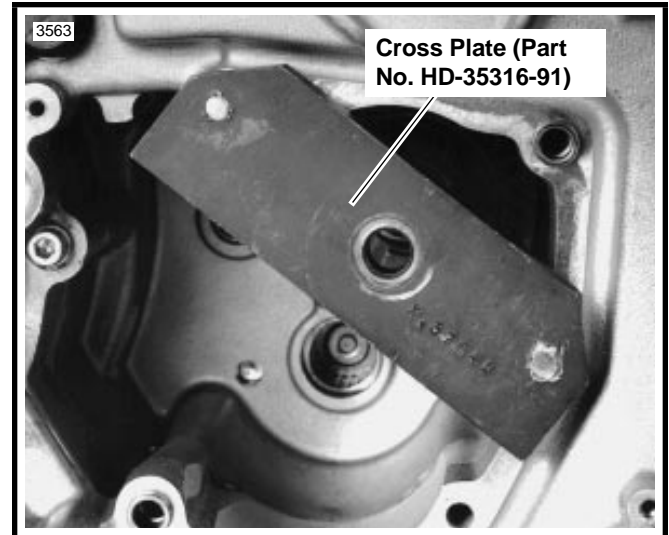

Figure 6-42. Cross Plate Mounting
1. Locate MAIN DRIVE GEAR REMOVER AND INSTALLER \(Part No. HD-35316-A\). See Figure 6-42. Place support bracket pins in appropriate holes in transmission case.